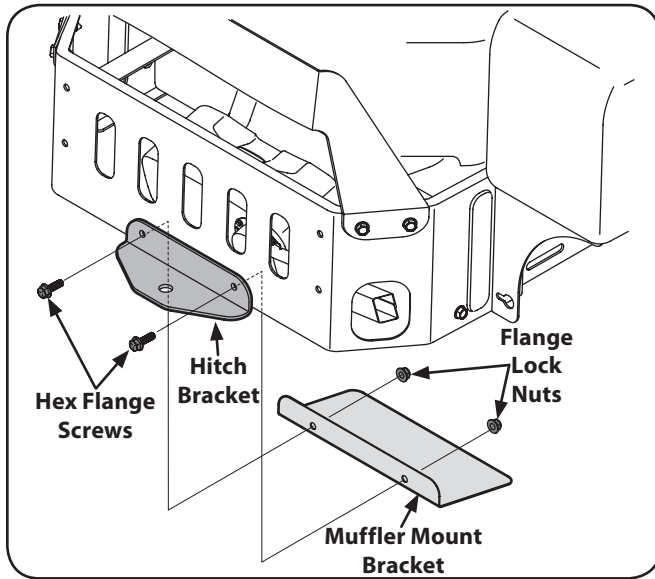

Figure 3-7
2. Install the hitch bracket and muffler mount bracket as shown in Figure 3-7 and secure with the hex flange screws and flange lock nuts removed in step 1.